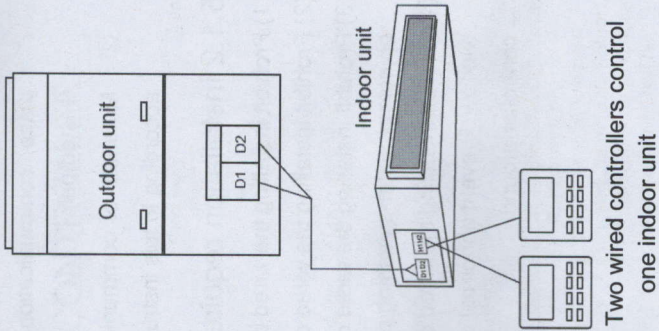

Fig. 5.4 Two wired controllers control one indoor unit
- (4) When one (or two) wired controller(s) control(s) multiple indoor units at the same time, the controlled indoor unit's setting should be the same.
- (5) Wiring of wired controller and indoor unit network must be according to one of the four wiring method as shown in fig 5.3-5.6. As for the connection method shown in fig 5.4 and 5.6, there should be only one master wired controller (address is 01) and one slave wired controller (address 02). The quantity of wired controller can't exceed two.